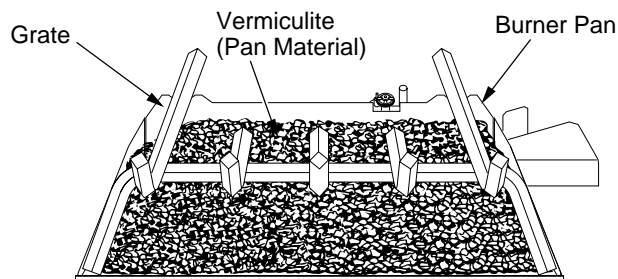

Figure 21 - Fill Entire Burner Pan with Vermiculite (P325/VP325 Models Shown)
1. Open the bag(s) of vermiculite and fill the entire burner pan until the burner tube is completely covered (see Figure 21).